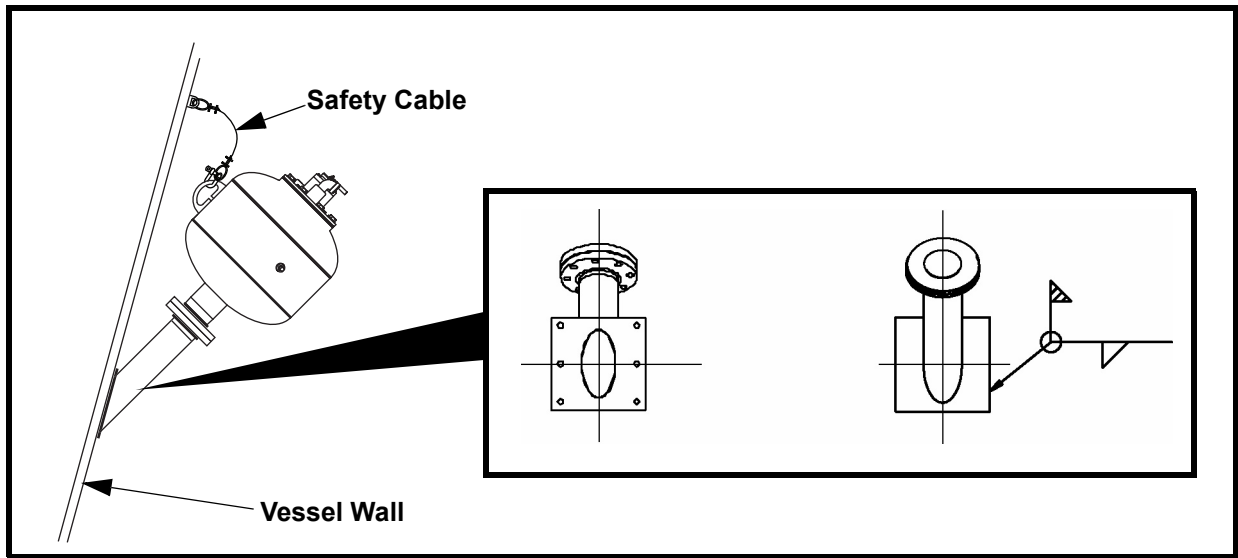

Figure 6. Installing 30-Degree Mounting Plate
- a. If using 30-degree mounting plate (Figure 6), cut hole in storage vessel for each mounting plate using templates on last page of this manual. If templates are missing, contact Martin Engineering or representative. Place mounting plate over hole and field weld to vessel skin.